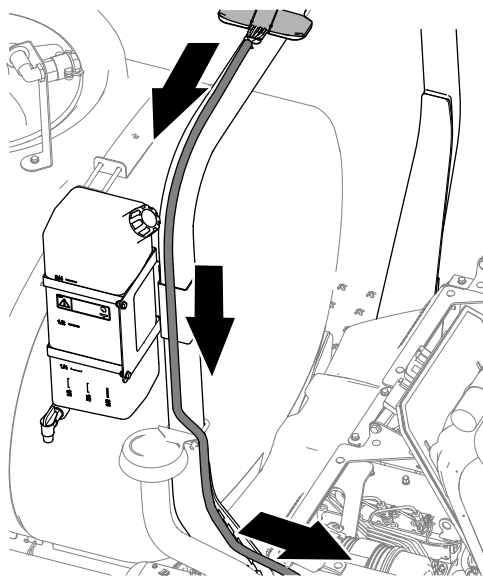

Figure 128
- Route the modem-antenna harness to the right, along the roll bar (Figure 128).
2. Route the harness down, and forward as shown in Figure 128.